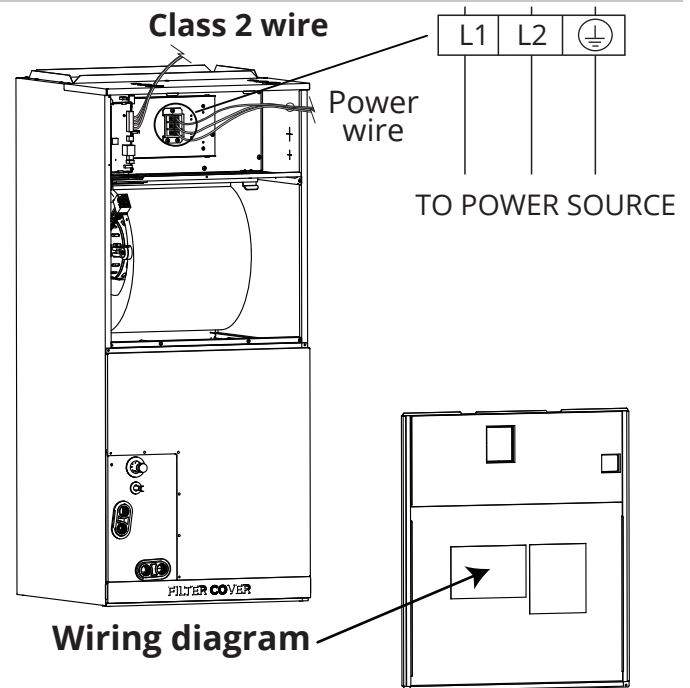

Fig. 7.2
4. Properly connect the wiring by securely fastening the u-lug or ring terminal of each wire to the corresponding terminal on the terminal block. Refer to the unit serial number and the wiring diagram located on the electric control box cover (**Fig. 7.2**). **NOTE: For more detailed illustrations of the different variations of wiring connections, depending on your specific application, please refer to the wiring diagrams on pages 47-50.**